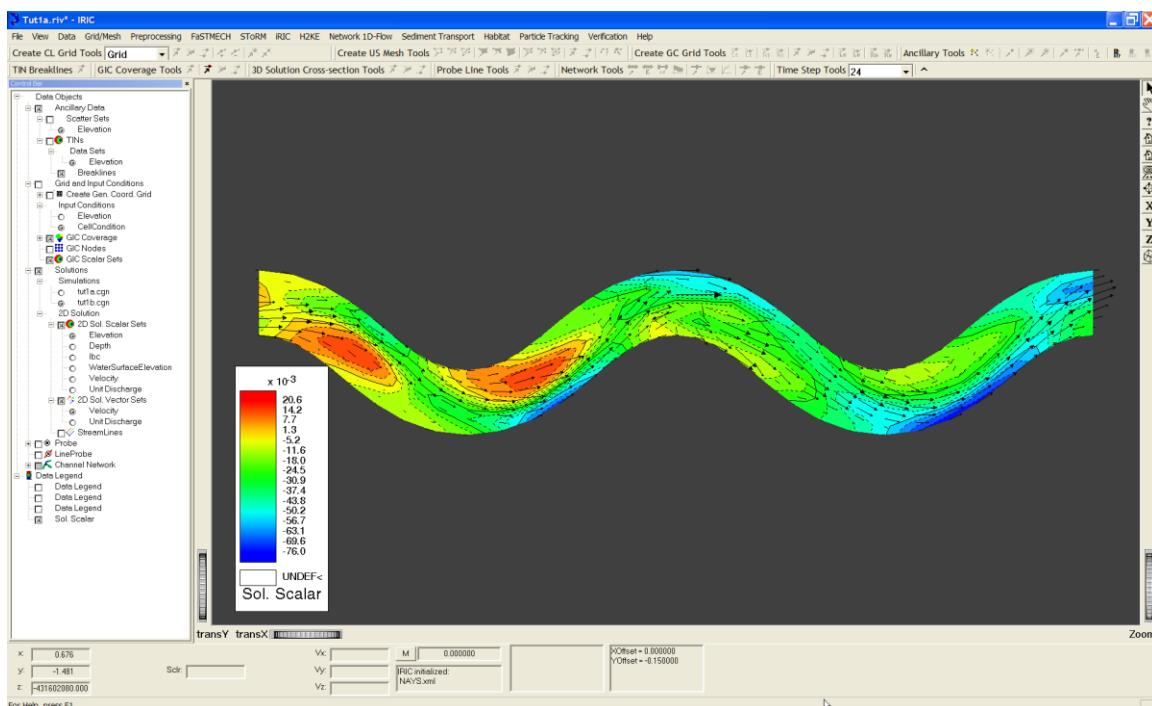

Figure 3.5.1.8 The solution at time step 24. Note that Elevation 2D Sol. Scalar Set is selected and the Velocity 2D Sol. Vector Sets is selected.
Figure 3.5.1.7 (A) User define polygon drawn with the Create Coverage Region tool. The polygon is drawn to encompass 8 cells in the outside of the meander bend. (B) Right click on GIC Coverage | Region_0 to define properties of polygon. (C) In the drop-down menu of the Set CellCondition Values dialog select Obstacle. (D) The resulting values of the CellCondition are visualized.
From the menu select **iRIC->Create New Simulation**. In the Save As Dialog type in a name for the simulation (for example, Tut1b). From the menu select **iRIC->Edit Calculation Conditions**. Enter the same values as in section 3 or Figure 3.5.1.5. From the menu select **iRIC->Run**.